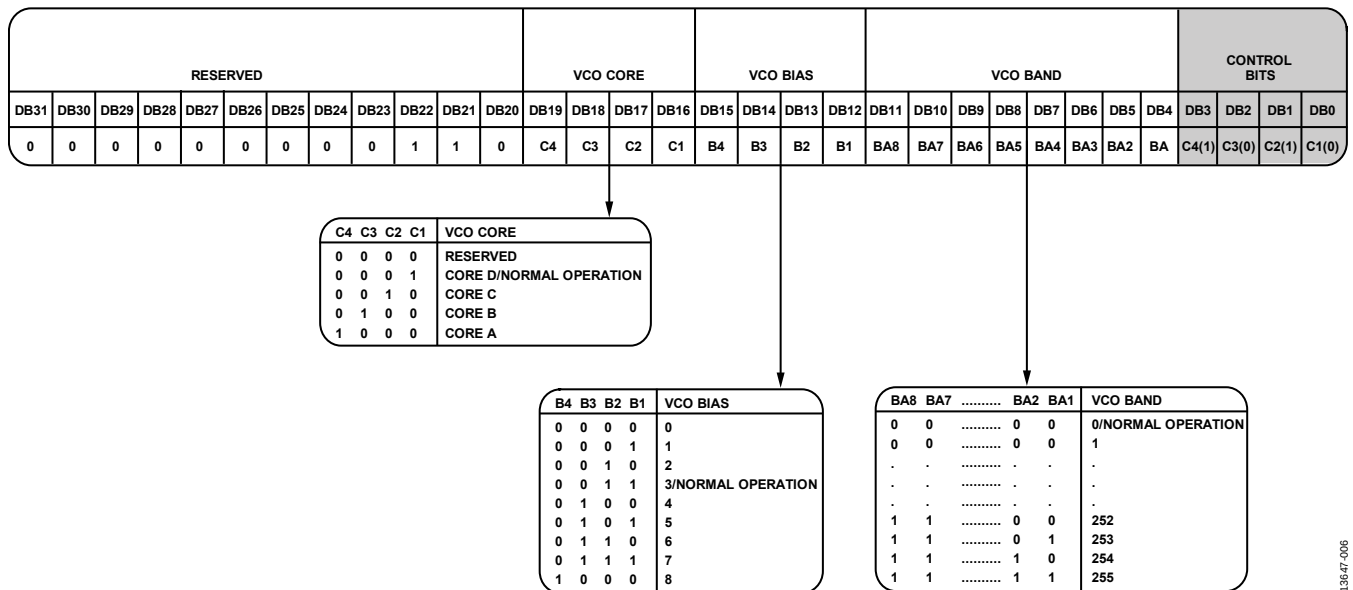

Figure 6. Register 11
- Load R11 with the desired VCO core, VCO band, and VCO bias setting as defined in Figure 6. Note that the VCO core bits are different for read and write.